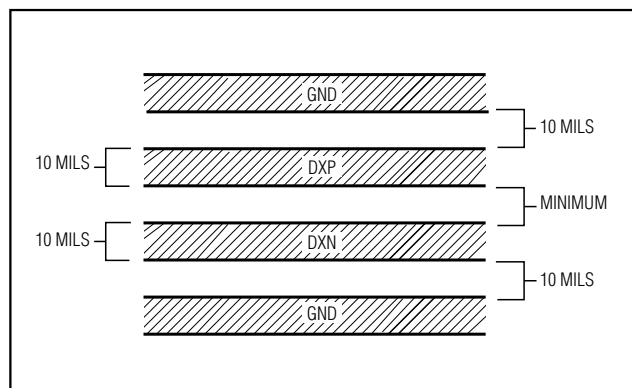

Figure 6. Recommended DXP/DXN PC Traces
- 3) Route the DXP and DXN traces in parallel and in close proximity to each other, away from any higher voltage traces, such as 12VDC. Leakage currents from PC board contamination must be dealt with carefully since a 20M $\Omega$  leakage path from DXP to ground causes about 1°C error. If high-voltage traces are unavoidable, connect guard traces to GND on either side of the DXP-DXN traces (Figure 6).
- 4) The 10-mil widths and spacing recommended in Figure 6 are not absolutely necessary, as they offer only a minor improvement in leakage and noise over narrow traces. Use wider traces when practical.